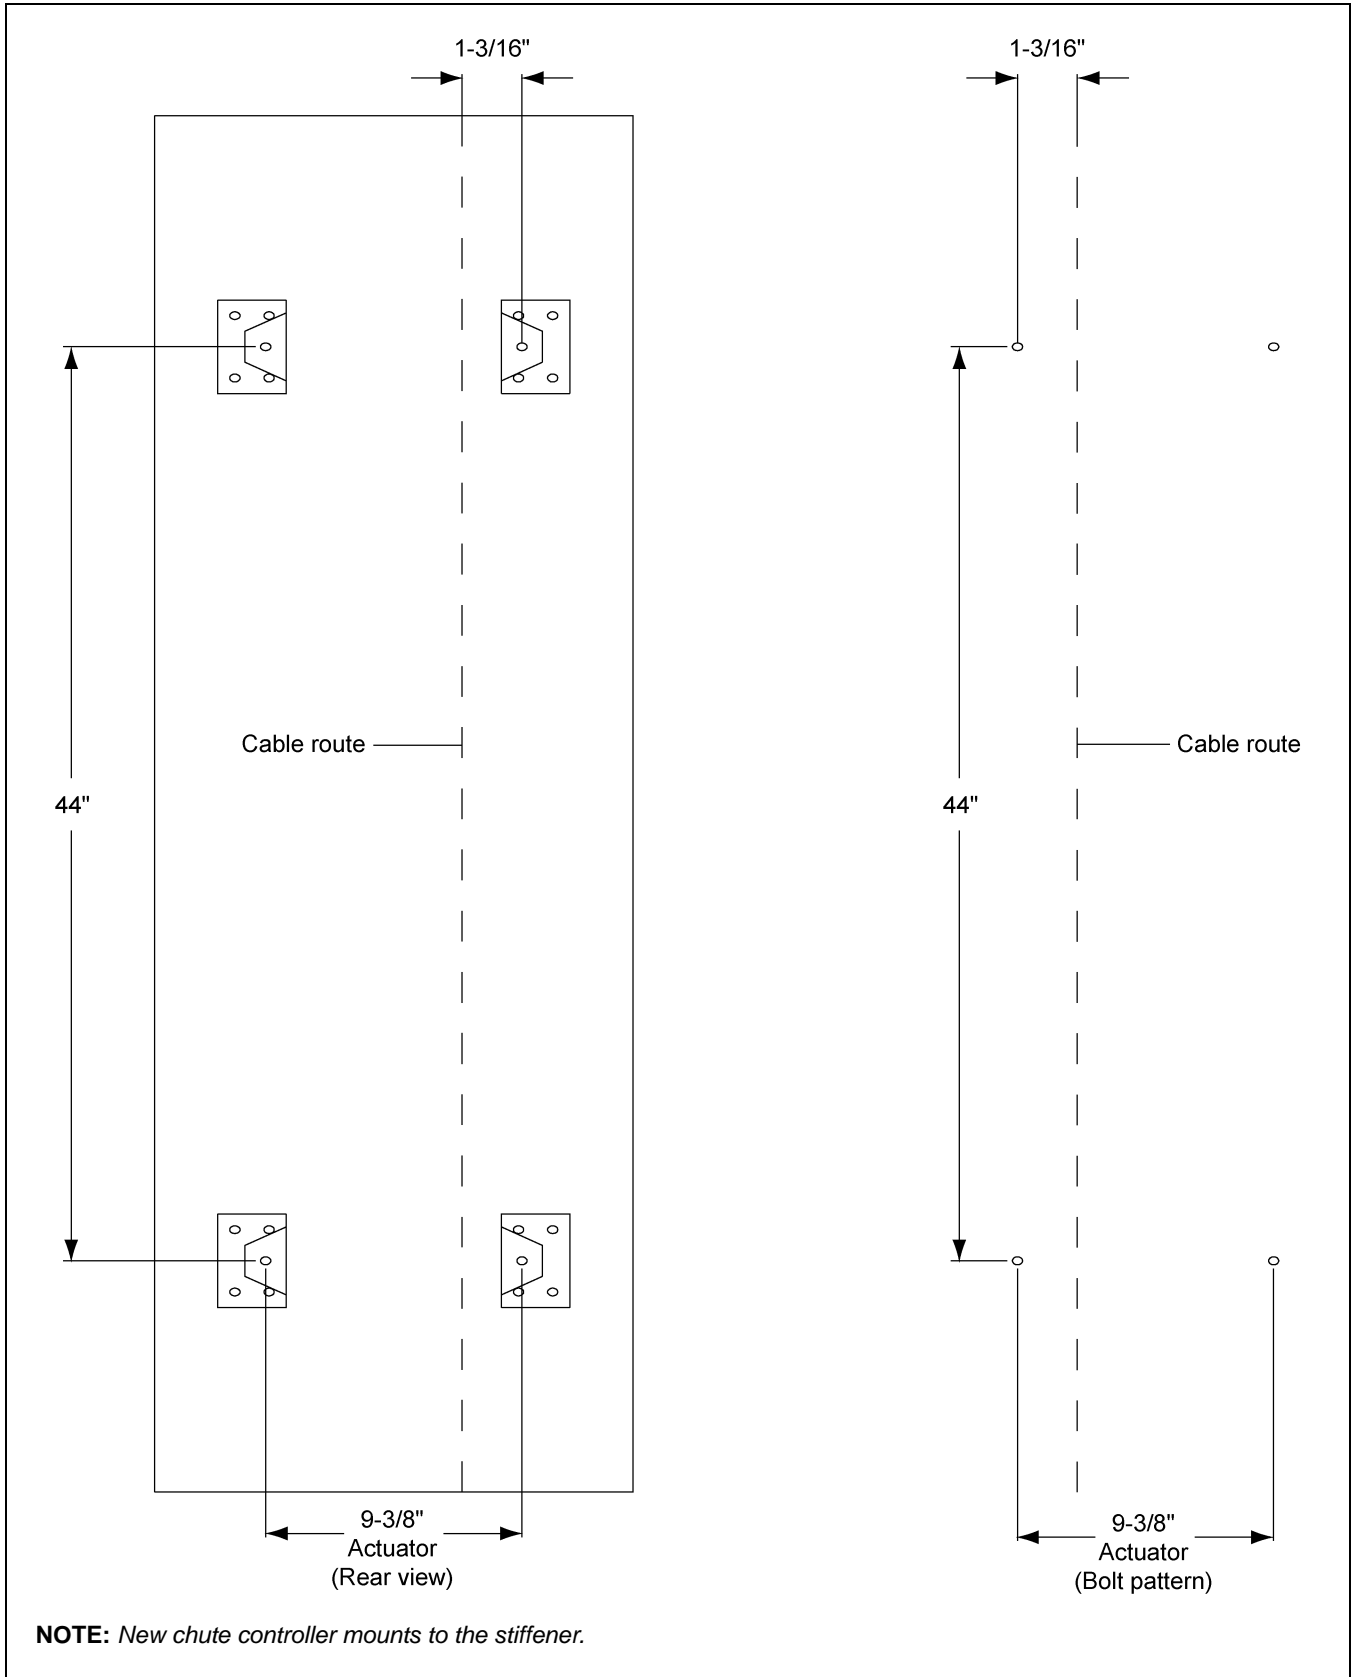

Figure 3H Old Style Bolt Pattern to Drill Holes for the Actuator Control Box
4. Use the pattern in Figure 3H on Page 22 to drill holes for the actuator control box.
6. Use four (4) 5/16" x 1-1/4" bin bolts and washers with bolt heads to the inside of the bin.